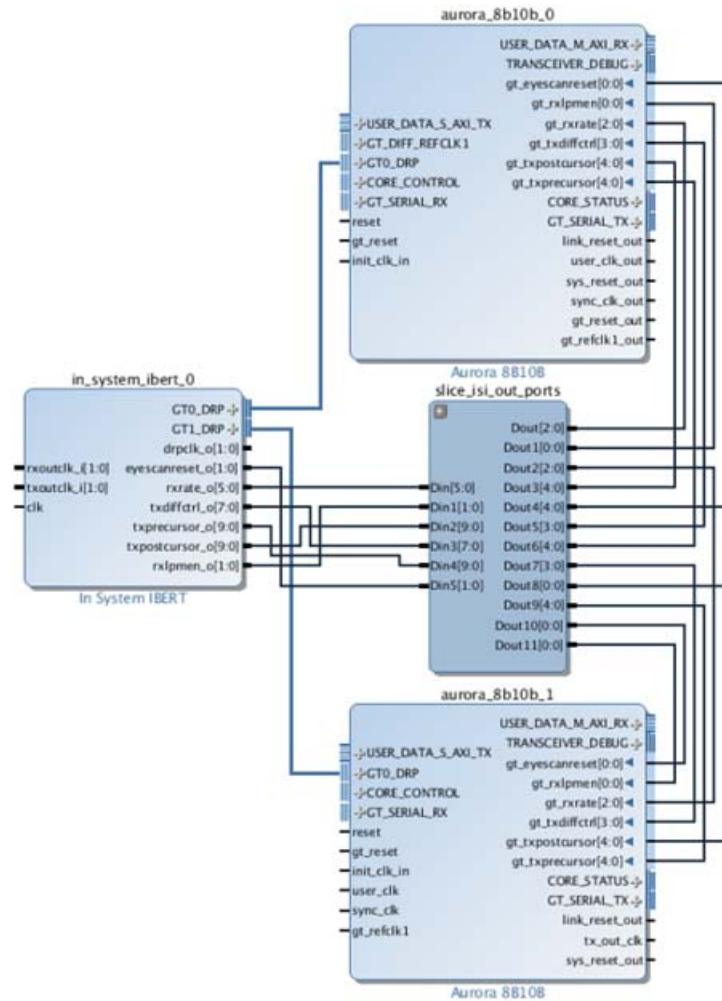

Figure 5-13: Sliced IP Hierarchy
20. Create the hierarchy for the sliced IP as shown in Figure 5-13.